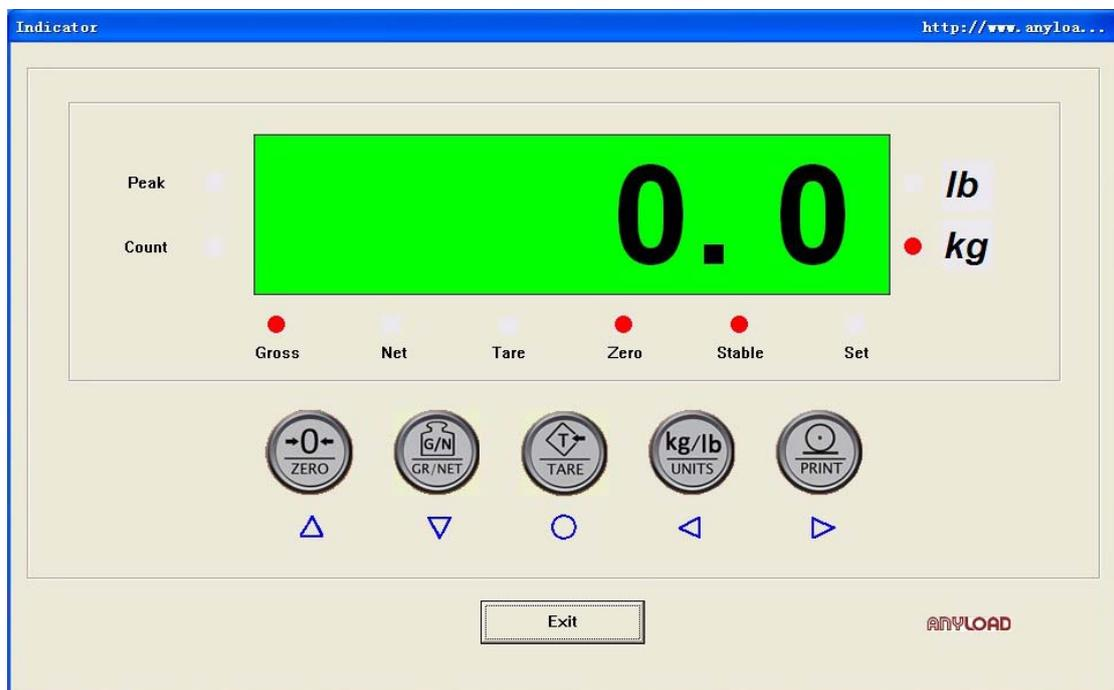

Figure 1-4 Software Interface of indicator
1.2.4 Software Interface of indicator (see figure 1-4)